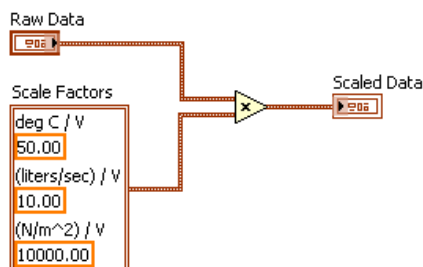

Figure 6.11
1. Build the block diagram shown in Figure 6.11. Make sure you apply the correct scale factors to each element in the Raw Data cluster.